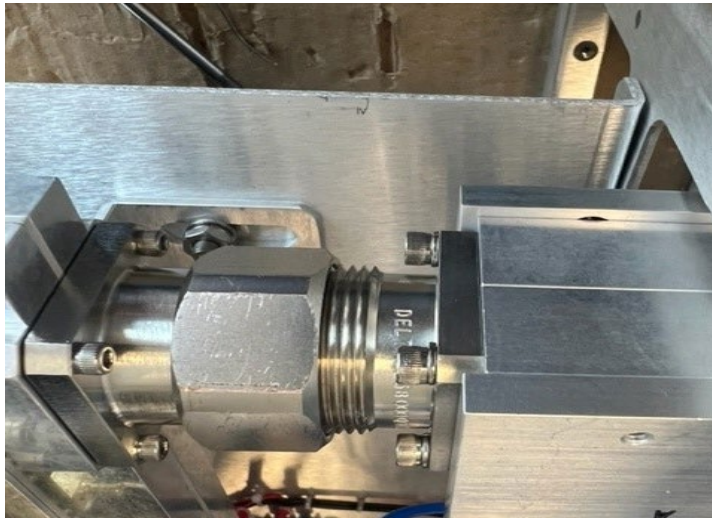

Figure 5
8. Ensure that the 7-16 male connection is completely unthreaded from the directional coupler (Figure 5).